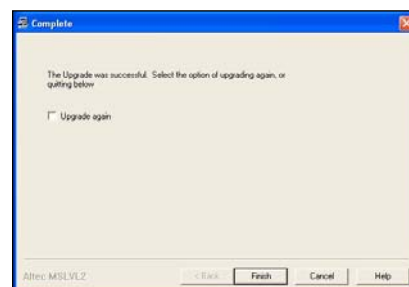

Figure 10 — Upgrade Completed Window
6. When the update is complete, MotoUpdate will show a screen saying that the upgrade was successful (refer to Figure 10). Click on Finish.